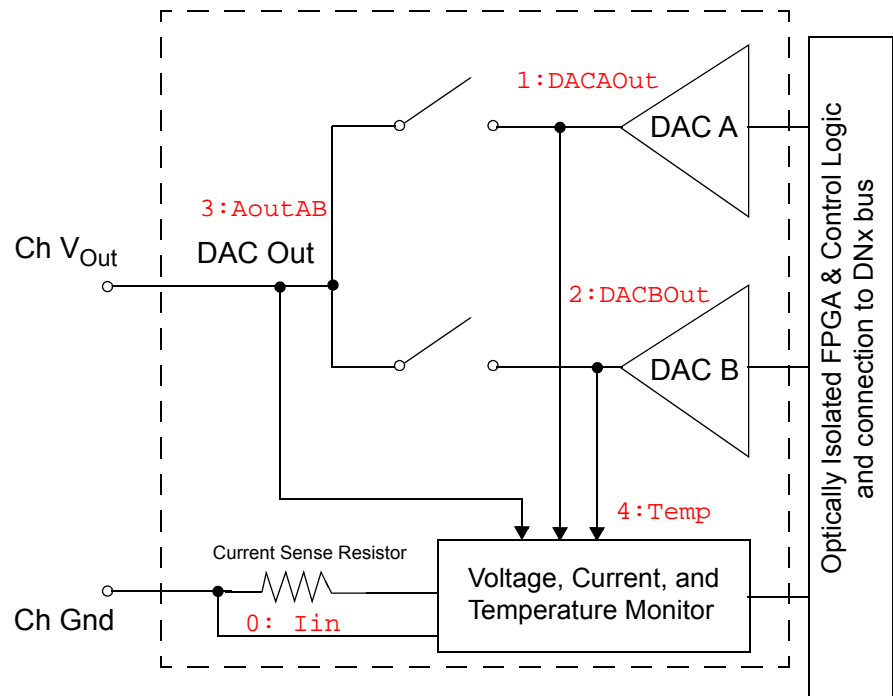

Figure 3-1 Block Diagram of Diagnostic Measure Points for AO-318 Channel
1. Program circuit breaker on DACA (see **Figure 3-1**) on channel 0
2. Set the trip points to when the DACA output voltage is less than a -11.0 V minimum and greater than an 8.0 V maximum. (Diagnostic channel (1) is “DACAOut voltage” in this example)